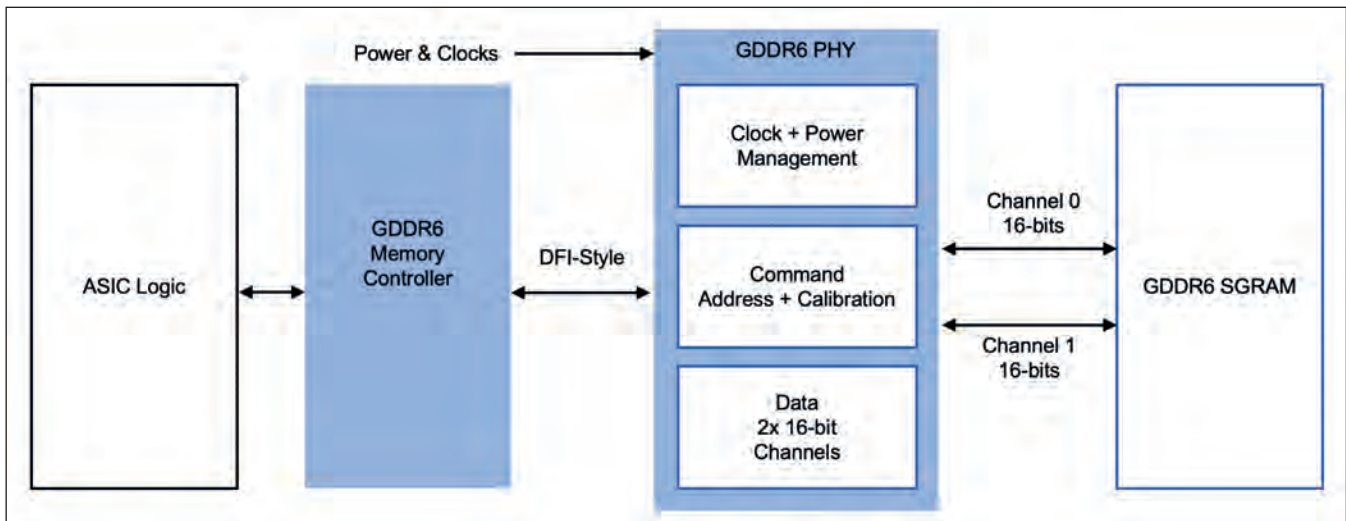

Figure 3: GDDR6 Memory Interface Subsystem Example. Source: Rambus
Figure 3. Optimised and uniform data from a manufacturable 300 mm GaN epitaxy process at Intel. Data distributions shown include: two-dimensional electron gas sheet resistance; GaN crystal quality, evaluated in terms of the the x-ray diffraction peak's full width at half-maximum (FWHM); and 300 mm wafer bow.
grown on foreign substrates, such as sapphire, SiC and silicon. The most popular platforms are 3-inch and 4-inch SiC, which are both relatively expensive, and 4-inch, 6-inch and 8-inch silicon (111). In contrast, we are using cost-effective 300 mm silicon (111) substrates (see Figure 3). On this platform we marry GaN with the most advanced high- $\kappa$  dielectric metal gate technology in our 300 mm fab. This enables enhancement-mode operation and gate-stack scaling, and it ultimately realises high performance and low leakage, the keys to higher efficiencies. Note that this reduction in leakage is significant – it can exceed four orders of magnitude (see Figure 4) better than a Schottky gate GaN HEMT.